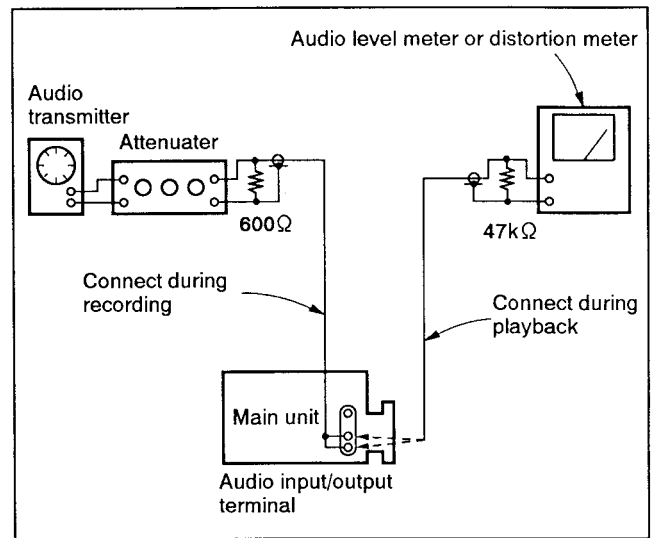

Fig. 10-33.
Connect the audio system measuring instruments in addition to the video system measuring instruments as shown in Fig. 10-33, and perform adjustments at the power switch [player] position. When inputting signal, connect Pin ⑦ (JACK OUT/IN) of JACK ASSY and GND with a jumper wire during Recording mode. Setting REC mode is described in section 10-1-5.